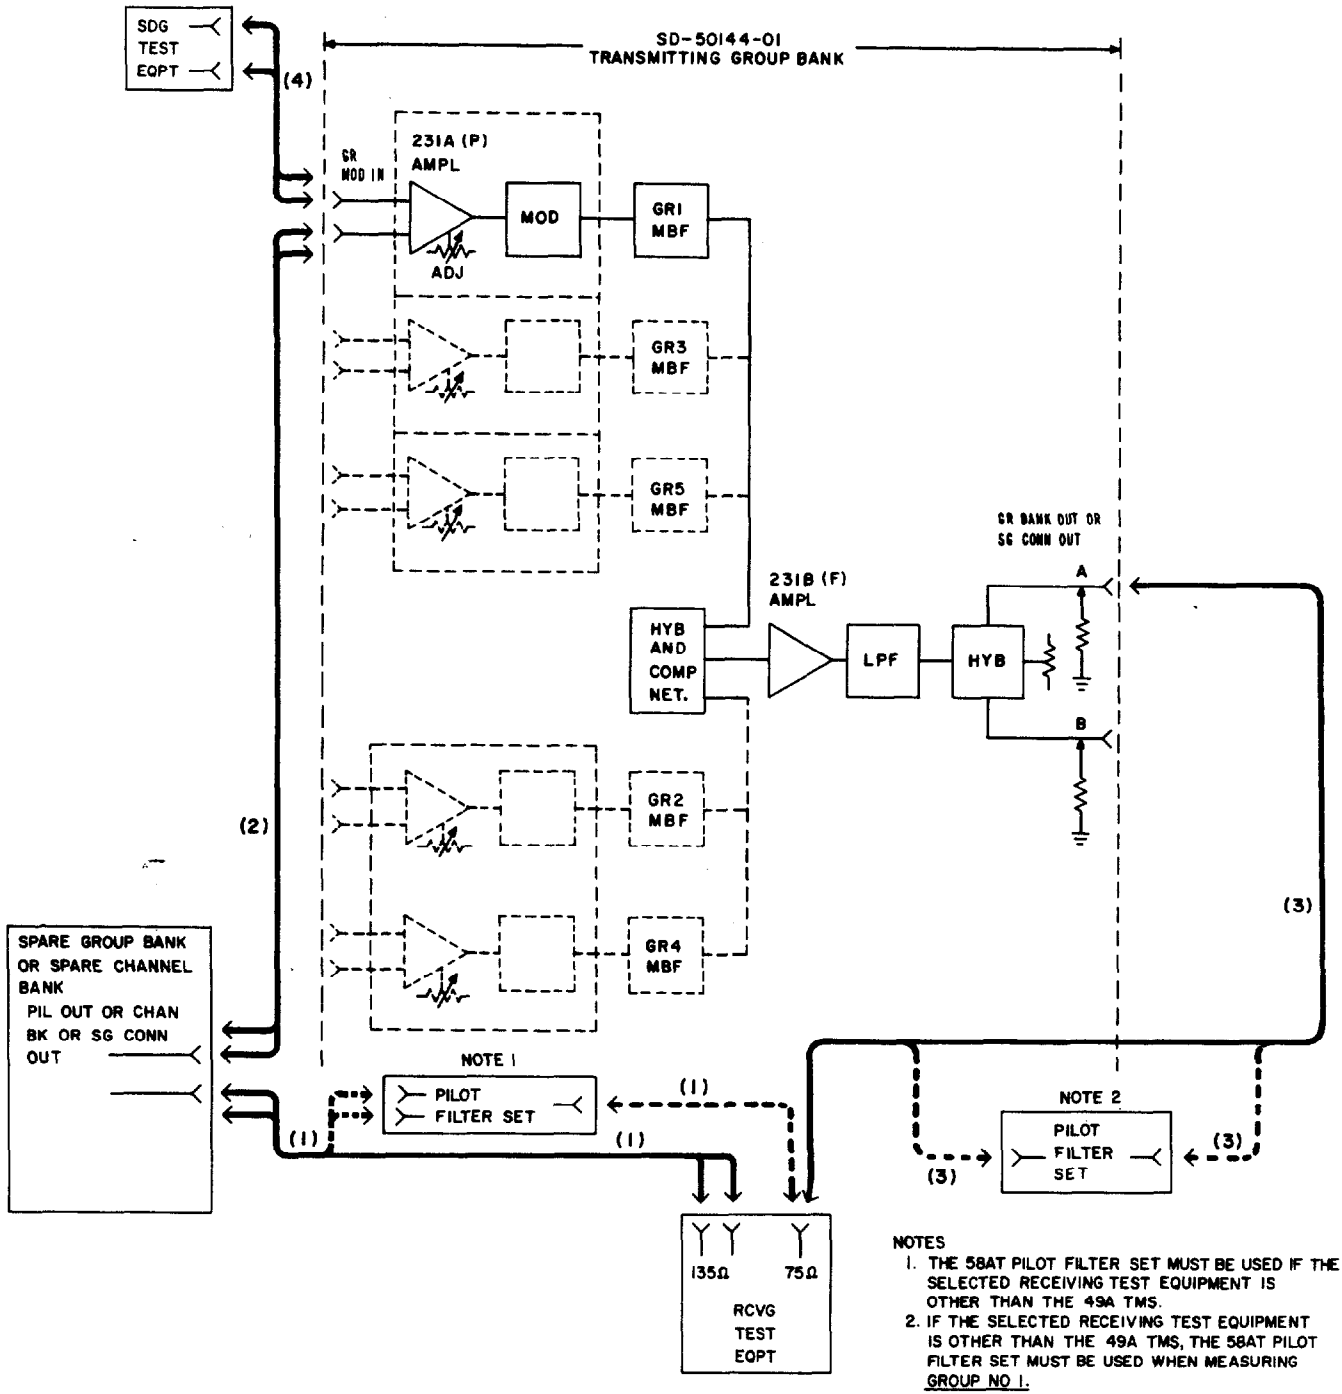

Fig. 2—Group Modulator—Out-of-Service Gain Tests
- 3 Connect the receiving test equipment to the **PIL OUT or CHAN BK or GR CONN OUT** jack [patch (1), Fig. 2].
| 9 | Connect the spare group bank or spare channel bank to the GR MOD IN jacks [patch (2), Fig. 2]. |
| 10 | Connect the receiving test equipment to the GR BANK OUT or SG CONN OUT A jack [patch (3), Fig. 2]. |
| 17 | Remove patch (2), Fig. 2, and the 58AT pilot filter set if it were used. |
- 20 Connect the sending test equipment to the GR MOD IN jack [patch (4), Fig. 2].